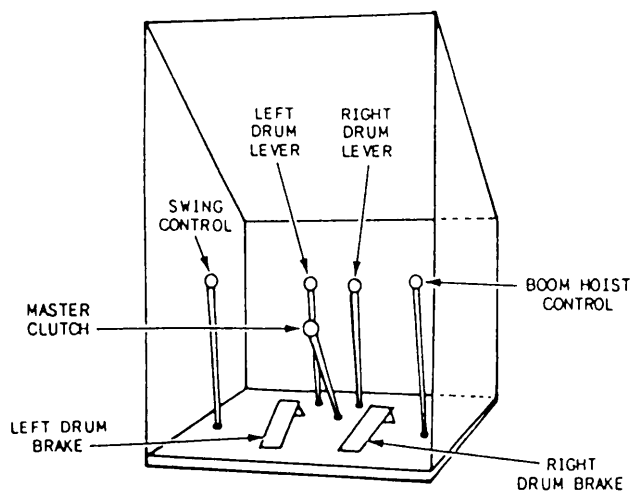

Figure 12-21.—Lattice boom crane control levers.
**OPERATOR'S CAB.**— The control levers for a lattice boom crane are located in the operator's cab. The control levers that are shown in figure 12-21 are typical of most cranes.